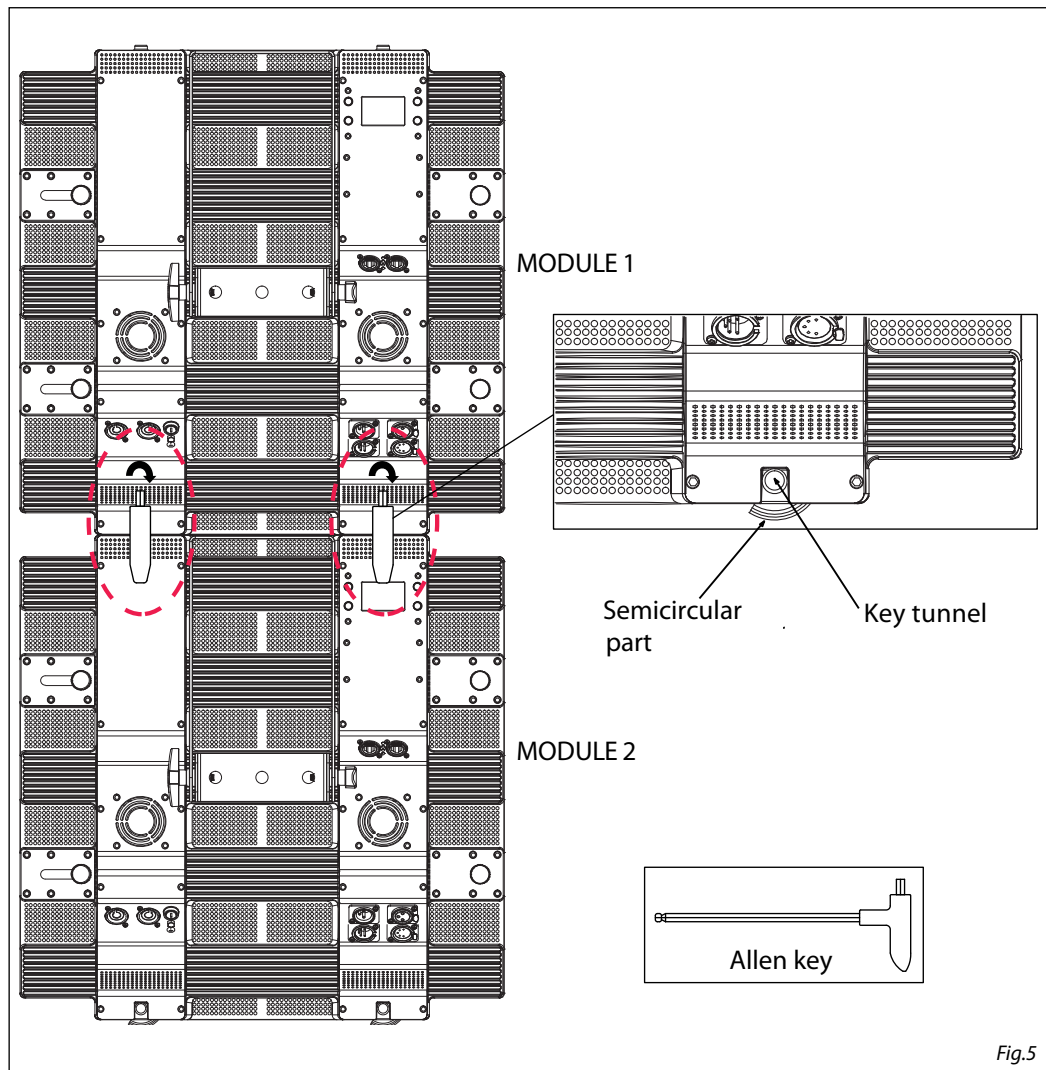

Fig.5
2. Up and down modules connected tightly as shown in figure 5.